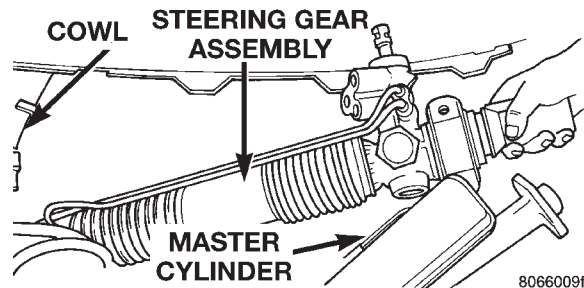

Fig. 15 Steering Gear Assembly Removal And Installation
(21) Remove steering gear assembly from vehicle through area in cowl that the windshield wiper module was previously removed from (Fig. 15).
(1) Install steering gear assembly back in vehicle through windshield wiper module opening in cowl (Fig. 15).